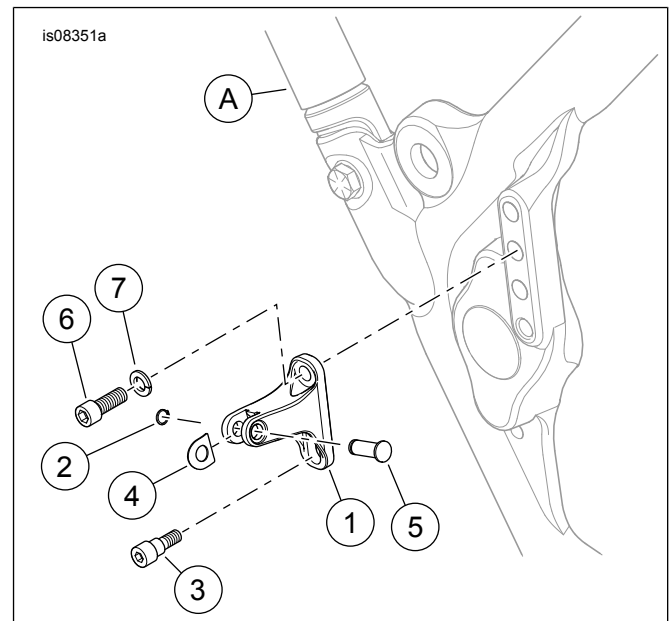

Figure 1. Service Parts: Passenger Bracket Kit
See Figure 1 and Table 1.
1. See Figure 1. Align support (1) with appropriate mounting holes.
- a. **2010 and Later Models:** Install shoulder screw (3) into the lowest hole in the rear swingarm bracket of the frame.
- b. **All Other Models:** Align bracket with desired mounting hole. Install shoulder screw (3).
3. At the desired height, install the upper screw (6) and lockwasher (7). Tighten to 49–56 N·m (36–42 ft-lbs).
4. Follow instructions in service manual to install footpeg or mini footboard. Install clevis pin (5) and retaining ring (2).